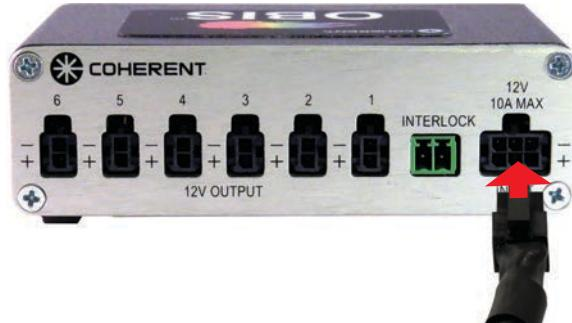

Figure 10-12. OBIS 6-Laser Remote Connecting Power
3. Connect the power cord to the OBIS 6-Laser Remote, as shown in Figure 10-12.